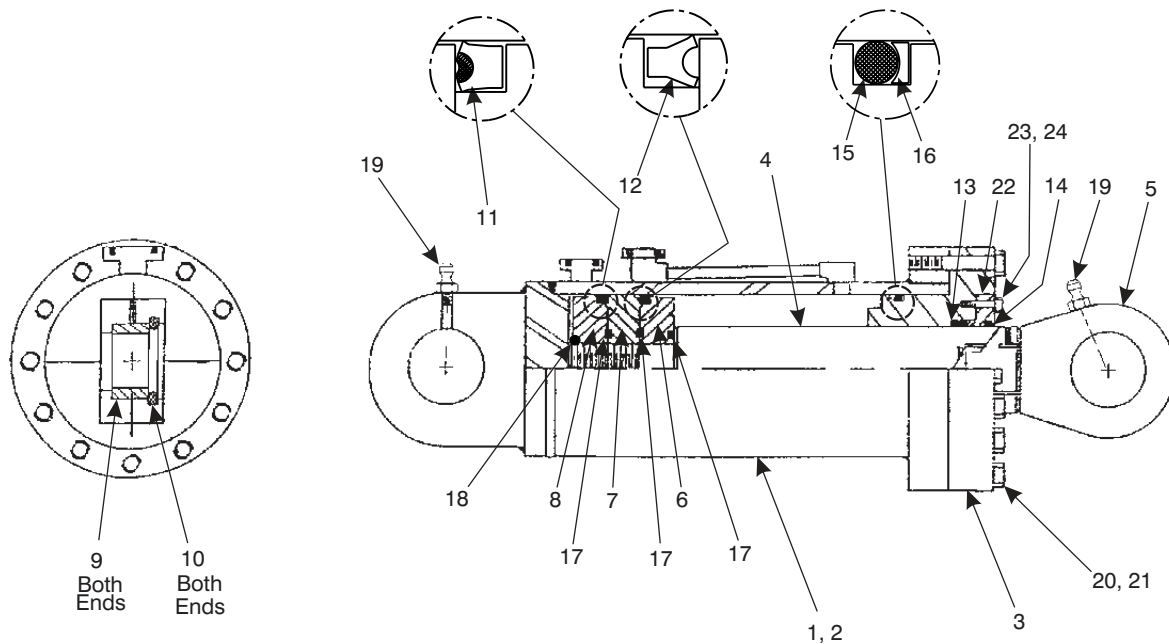

Figure 9-2. Cylinder Disassembly and Assembly
Refer to Figure 9-2.
3. Temporarily screw the rod eye (Figure 9-2, item 5) into the rod (item 4). DO NOT tighten at this time.
4. Install O-rings (item 17) in grooves on both sides of #1 piston segment (item 6).
5. With the large end of the piston seal (item 12) oriented towards the eye end of the rod, install first piston seal (item 12) over #1 piston segment (item 6).
6. Install #2 piston segment with the side without wrench holes (item 7) facing eye end of rod. #2 piston segment should turn easily by hand until it contacts #1 segment O-ring. Tighten with wrench.
7. With large end of piston seal facing away from rod eye, install O-ring (item 17) and piston seal (item 11) to #3 piston segment (item 8). Be sure expander ring is installed in piston seal (item 11).
8. Install #3 piston segment (item 8) onto rod (item 4) end. Tighten with wrench.